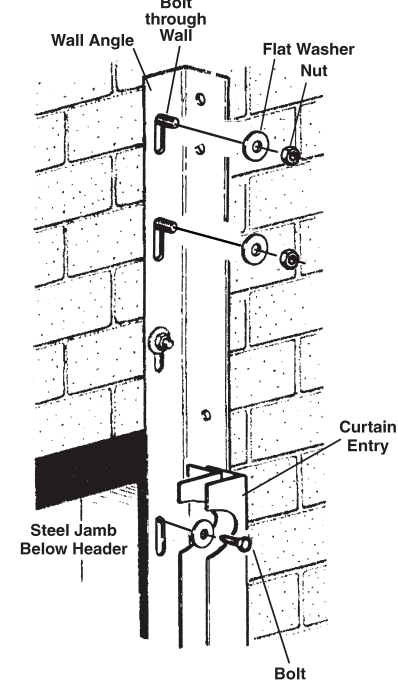

Figure 5
- Measure the length of the guide jamb angle and the height of the jamb opening. The difference must allow expansion of the guides  $1/8"$  per foot of opening height. Attachment bolts or anchors must be installed at top of slot on wall angle. See Figure 5.
**NOTE:** When steel jamb does not extend above the opening, use three thru-bolts to fasten each wall angle above the opening. See Figure 5.